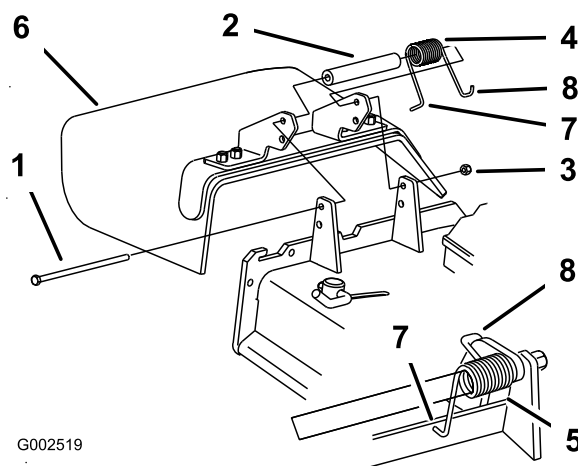

Figure 72
1. Remove the locknut, bolt, spring and spacer holding the deflector to the pivot brackets (Figure 72).
Note: Make sure the **L** end of the spring is installed behind the deck edge before installing the bolt as shown in Figure 72
5. Place the **J** hook end of the spring around the grass deflector (Figure 72).